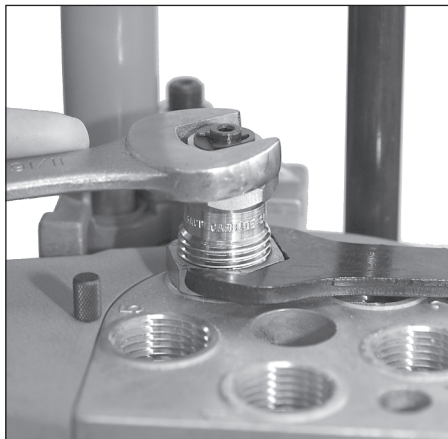

FIG 29
7. Using a 1" wrench to turn the locking, and bench wrench to hold the die body, tighten the 1" locking FIG 29.